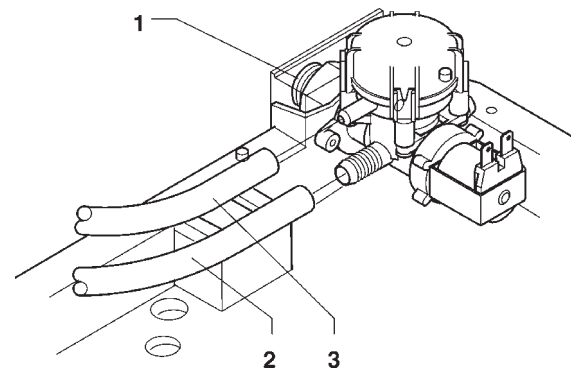

Fig. 15
Use a hose (also available as a kit) capable of withstanding the water mains pressure and suitable for use with foodstuff (min. inside diameter of 6 mm) to connect the water supply to the union (3/4" gas) of the water inlet solenoid valve (see Fig. 15).
The water inlet solenoid valve (see Fig. 15) is equipped with an overflow device which mechanically stops the water inlet if there is a malfunction in the solenoid valve or in the boiler water level control device.
- loosen the connection which secures the solenoid valve supply hose to relieve the water mains residual pressure and then tighten it again (see Fig. 15);